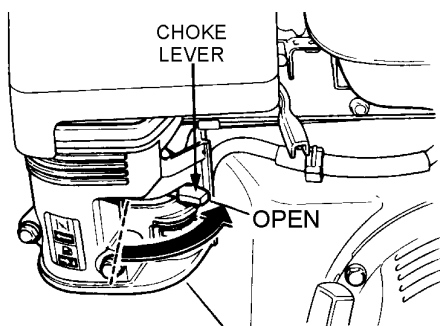

Figure 18. Choke Lever (Open)
- If the choke lever was moved to the **"CLOSED"** position to start the engine gradually move it to the **"OPEN"** position (Figure 18) as the engine warms up. If the engine has not started repeat steps 1 through 6.